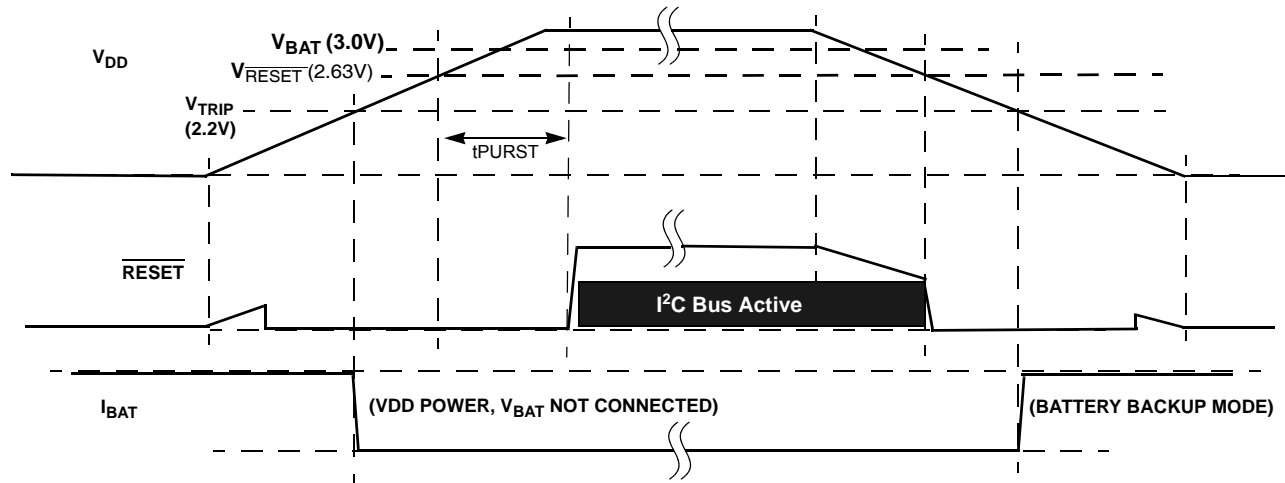

FIGURE 29. EXAMPLE RESET OPERATION IN MODE A OR C
- **Mode A** - In this mode, selection bits indicate a low V_{DD} switchover combined with I^2C operation in battery backup mode. In actuality the V_{DD} will go below V_{RESET} before switching to battery backup, which will disable I^2C ANYTIME the device goes into battery backup mode. Regardless of the battery voltage, the I^2C will work down to the V_{RESET} voltage (see Figure 29).
- **Mode D** - In this mode, the selection bits indicate switchover to battery backup at $V_{DD} < V_{BAT}$, and no I^2C communications in battery backup. This mode is unique in that there is I^2C communication as long as V_{DD} is higher than V_{RESET} or V_{BAT} , whichever is greater. This mode is the safest for guaranteeing I^2C communications only when there is a Valid V_{DD} (see Figure 29).